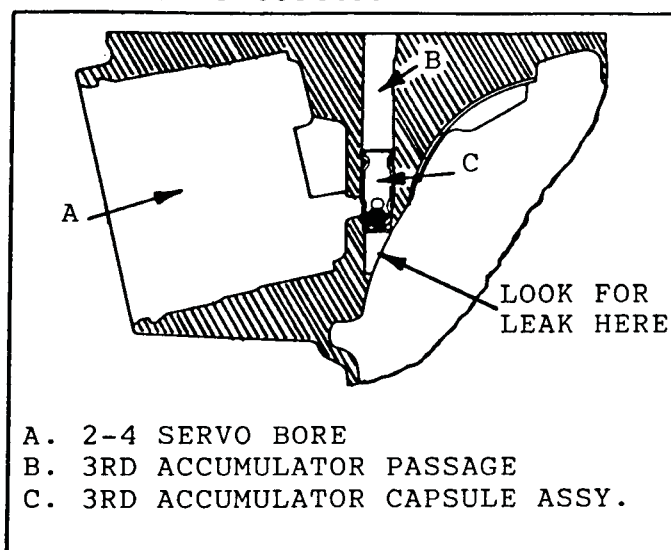

Figure 58
3. Pour a suitable solvent into the 3rd Accum. passage (Refer to Figure 58).
4. Watch for leakage inside the transmission case (Figure 58).